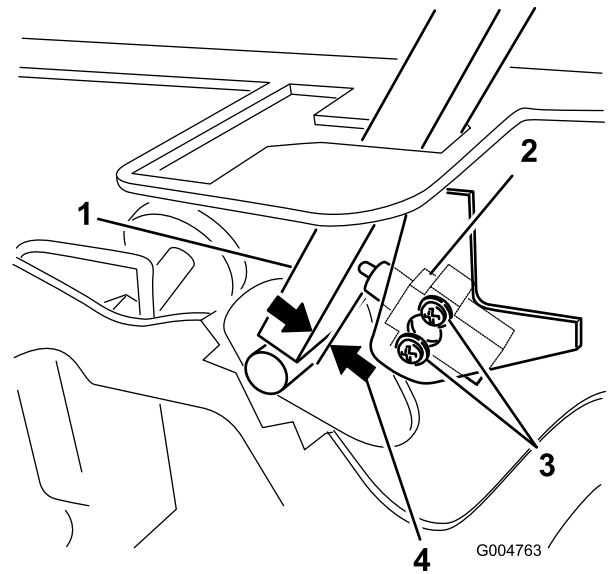

Figure 70
3. Loosen the 2 screws securing the interlock switch (Figure 70).
4. Holding the control lever against the frame, move the switch toward the lever until the distance between the lever and switch body is 0.4 to 1 mm (0.015 to 0.045 inch) as shown in Figure 70.